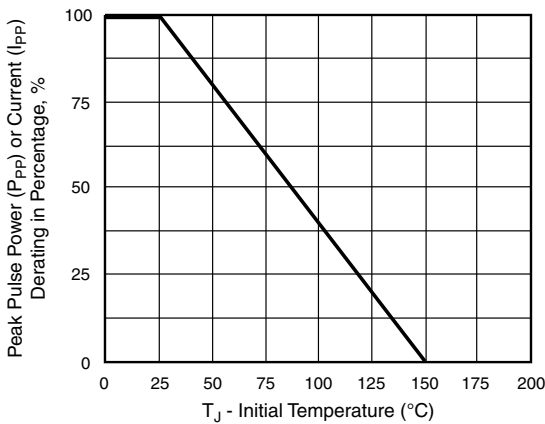
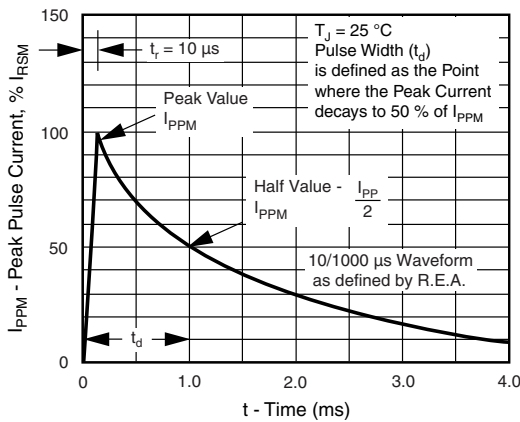

Fig. 2 - Pulse Power or Current vs. Initial Junction Temperature
Fig. 3 - Pulse Waveform
(1) Non-repetitive current pulse, per fig. 3 and derated above  $T_A = 25\text{ °C}$  per fig. 2